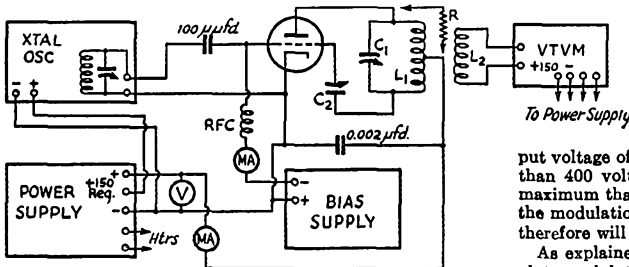

Fig. 1
**Apparatus:** The circuit diagram for this experiment is shown in Fig. 1. Equipment required includes the power supply, bias supply, crystal oscillator, tube board, circuit board, vacuum-tube voltmeter, and multi-range test instrument. A neutralized amplifier circuit similar to that shown in Exp. 30 is used. The grid circuit of the amplifier is coupled through the 100- $\mu$ fd. fixed condenser to the plate tank circuit of the oscillator. Bias for the amplifier is taken from the bias supply through the 2.5-millihenry r.f. choke, RFC.  $L_1$  is the fixed coil on the circuit board, with 30 turns in use; the plate voltage lead is tapped on the coil at the 15th turn.  $C_1$  is the 250- $\mu$ fd. condenser on the circuit board and  $C_2$  is the small condenser (about 50  $\mu$ fd. maximum capacity) used in this case as a neutralizing condenser. In wiring the amplifier circuit keep the leads as short as the physical conditions permit, and use enough separation between the crystal oscillator and the amplifier tank circuit,  $C_1L_1$ , to reduce the inductive coupling between the two to a negligible amount.
Separate milliammeters and voltmeters are shown in Fig. 1, but, as in the previous experiments, the single test kit can be used for all measurements if provision is made for closing those circuits through which current must flow — the amplifier grid-bias circuit and d.c. plate circuit — when the instrument is used elsewhere. Plate voltage measurements should be made with the highest-range scale which will give reasonably precise readings — at least a 500-volt scale.
Now connect the 15,000-ohm load resistance between the "B+" tap and the plate of the amplifier tube as shown in Fig. 1. Set the plate voltage to the maximum available, check the setting of  $C_1$  for resonance, adjust the oscillator
**Apparatus:** Same equipment and set-up as in Fig. 1, Exp. 31.